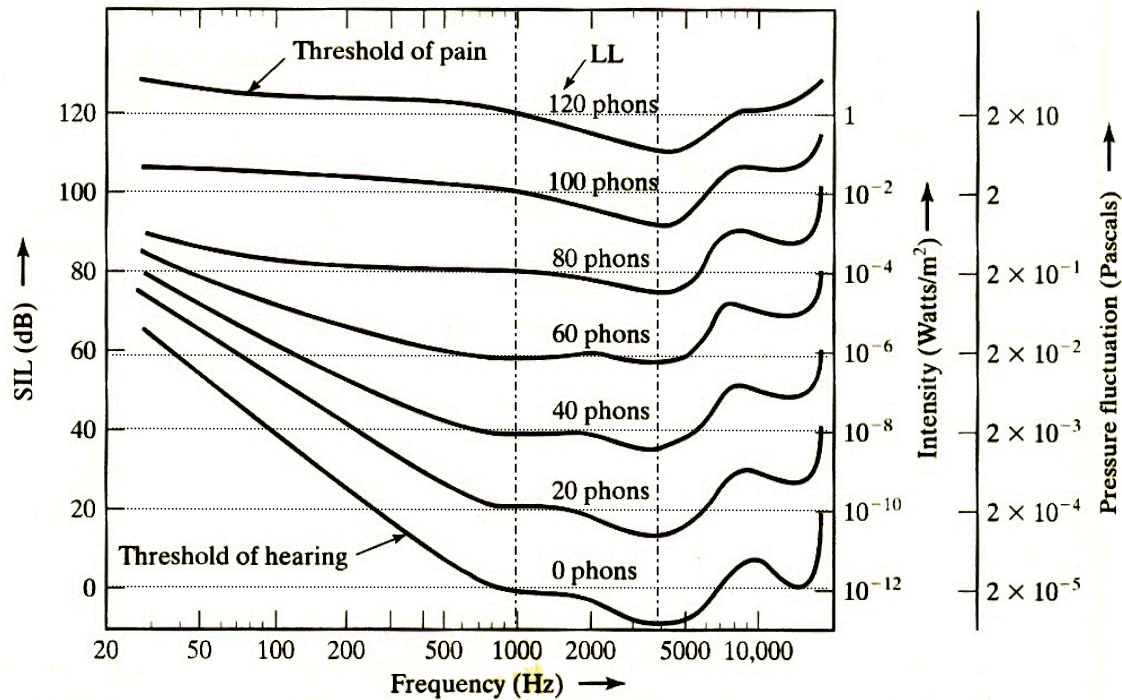

Figure 2: Fletcher-Munson curves of equal loudness. (From “Physics of Sound,” by R.E. Berg and D.G. Stork.)
1. Consulting the Fletcher-Munson equal loudness curves in Figure 2, what is the sound intensity I in W/m^2 corresponding to an average loudness level of 90 phon at a frequency of 500 Hz?